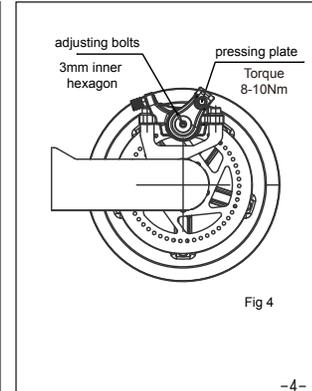

Fig 4
b) B gap: When B gap is too large, the connection screws have to be loosened (see Fig. 4). A 3 mm Allenkey is used to slowly turn the adjustment bolt in a clockwise direction (Fig. 3), until the clearance between rotor and brake pad is 0.2-0.4 mm for each side. Then repeat the caliper installation steps mentioned in Step 2.